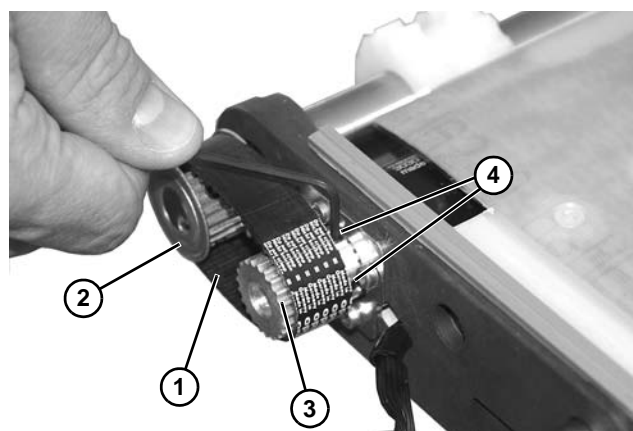

Figure 75
3. Slip timing belt (**Figure 75, item 1**) over driven pulley (**Figure 75, item 2**) and slide drive pulley (**Figure 75, item 3**) through timing belt onto gearmotor shaft.
4. Tighten drive pulley set screws (**Figure 75, item 4**) on gearhead shaft, making sure one set screw is over flat on shaft, and drive pulley is aligned with driven pulley.